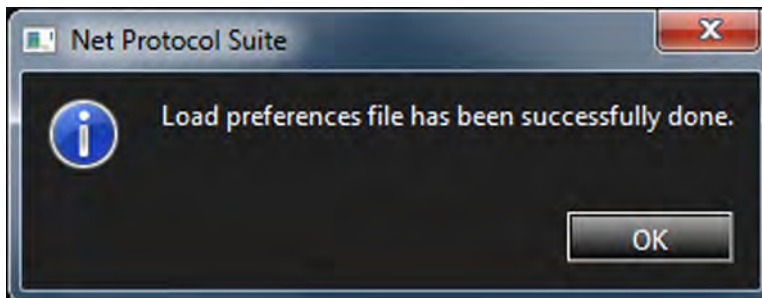

Figure 3.72: Set of Column Changes Loaded Successfully
- When the set of Columns settings is successfully loaded, the following pop-up box appears (Figure 3.72).